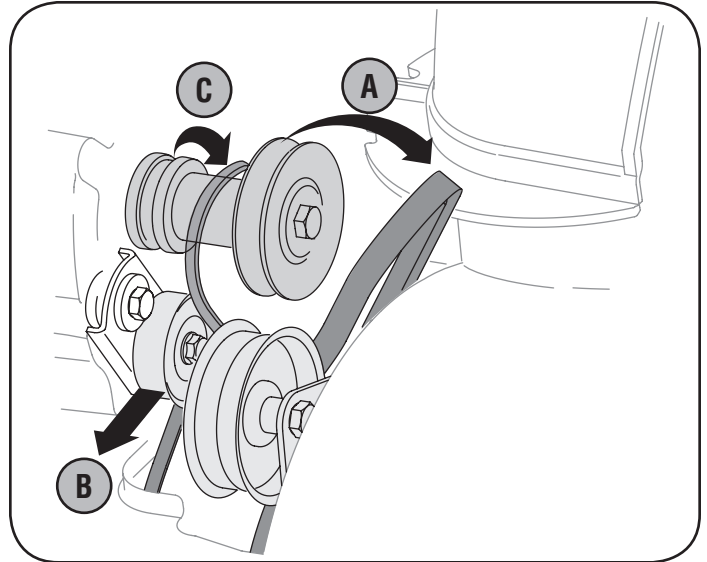

Figure 25
3. Remove the belt as follows. Refer to Figure 25.